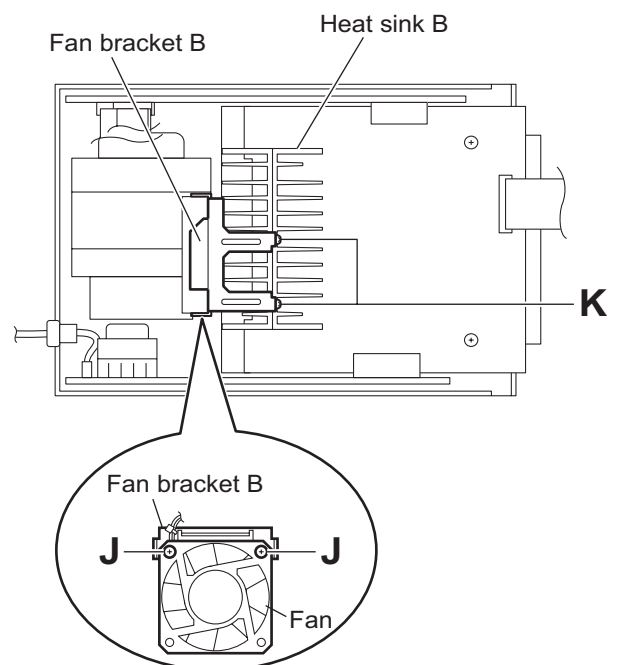

Fig.16
- (2) From the back side of the main body, remove the two screws **J** attaching the fan to the fan bracket B. (See Fig.16.)
When removing the fan with the fan bracket B, remove the two screws **K** attaching the fan bracket B to the heat sink B. (See Fig.16.)